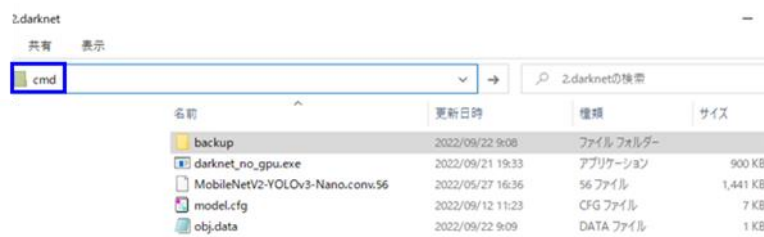

Fig. 5.12 Command prompt startup
- (b) Open the 2.darknet folder as shown in Figure 5.12, type “cmd” in the address bar and press Enter.
(a) Start the command prompt as shown in Figure 5.12.